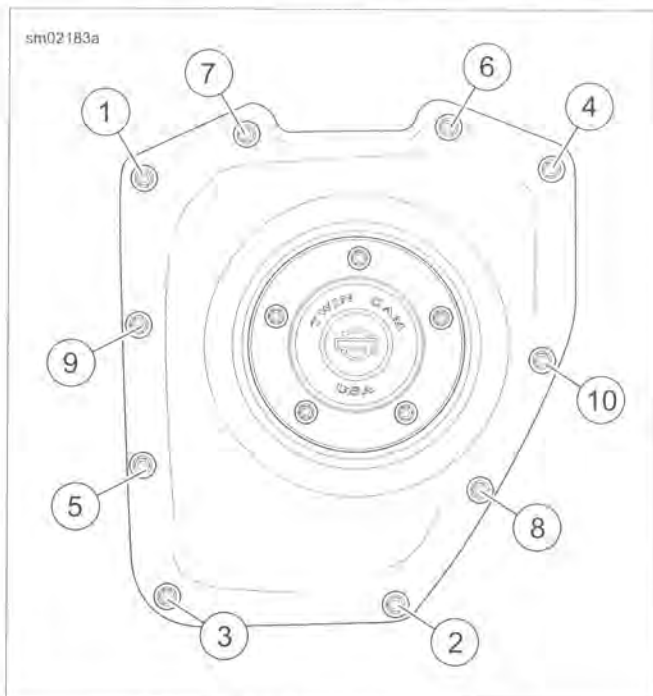

Figure 3-78. Cam Cover Screws
3. See Figure 3-78. Remove the screws to release the cam cover. Remove and discard the cam cover gasket.